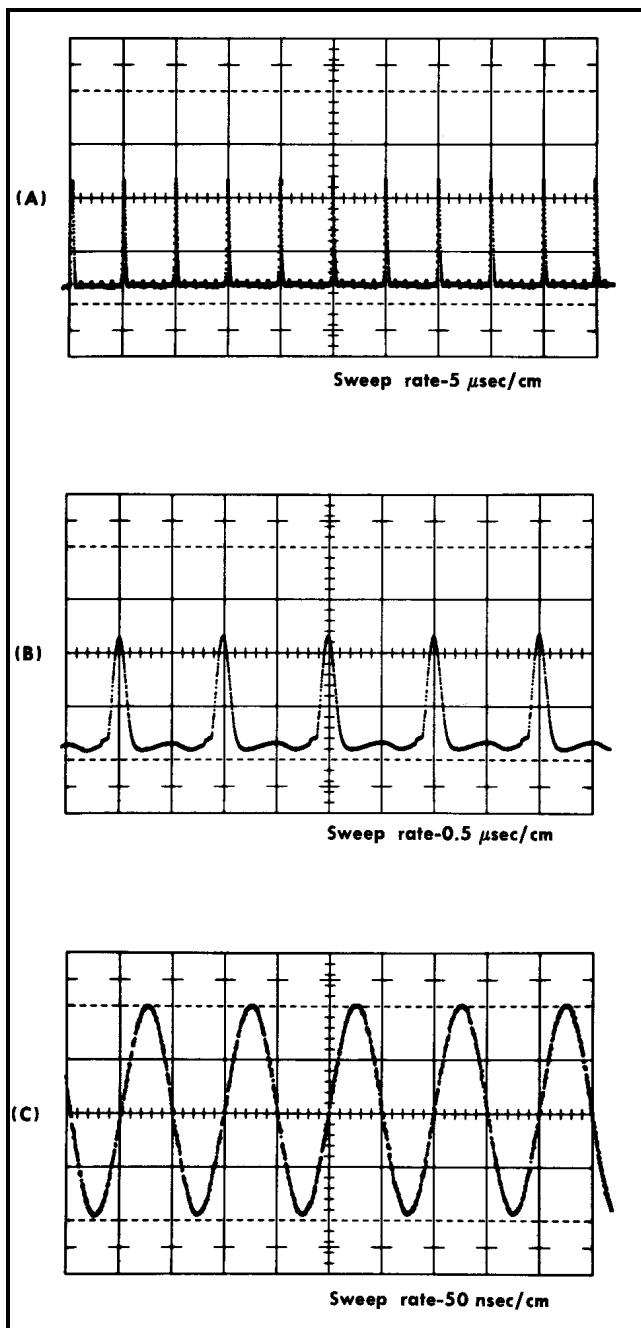

Fig. 5-55. Typical indicator oscilloscope displays for checking the X10 and X100 magnifiers.
l. Check the timing (XI) as indicated in Table 5-2 at 5 $\mu$ SEC, then pull out on the MAGNIFIER knob and turn the TIME/CM switch as indicated in the table.
m. Check timing when using the X10 and X100 magnifiers as given in Table 5-2 and illustrated in Fig. 5-55. Timing over the center 8cm should be within 1% (0.08cm) at each magnification.